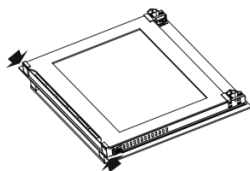

Figure 4
- Fully open the door and press the plastic latches on each side of the door (Figure 4).